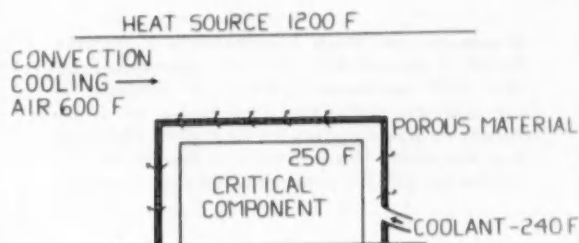

Fig. 1—Transpiration cooling is one means of dissipating heat that is built up in equipment.
2. Remove the heat before or as it reaches the critical material to a heat sink such as the atmosphere or a heat exchanger. The usual method of removing heat before it reaches the structure or equipment is to pass a coolant between the source and the structure or equipment. However, transpiration cooling, sweat cooling, and film cooling are more efficient. An example of transpiration cooling is shown in Fig. 1. Equipment that is exposed to heat radiation and hot air is surrounded with a shield of porous material through which cool air is blown. Large amounts of heat can be carried off. Merely blowing cool air on the component without